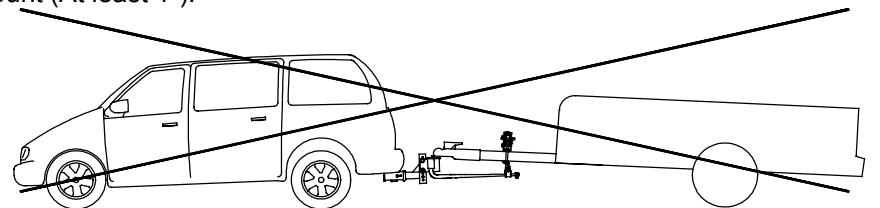

Figure 11
- The front of the vehicle should never settle more than the rear. See Figure 11. If necessary increase the number of chain links between lift unit and spring bar.